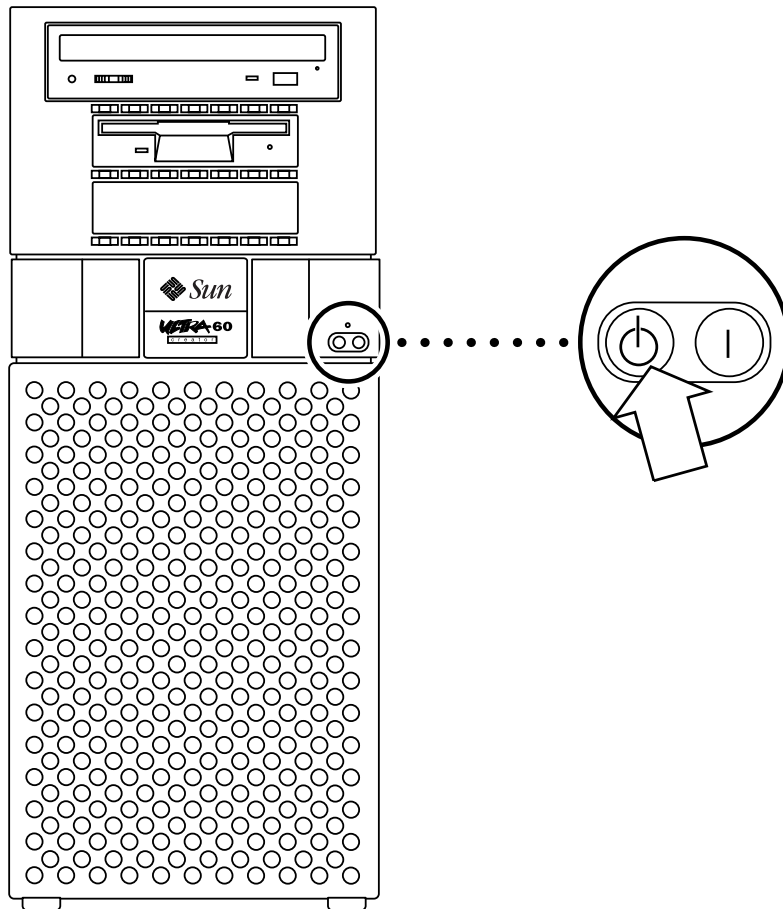

FIGURE 8 Power Switch on an Ultra 60 System
1. Unpack or disconnect your system (FIGURE 8).
- c. **Set the front panel power switch to the Off position (FIGURE 8).**